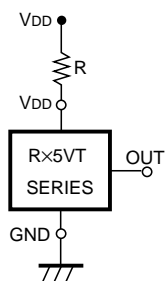

FIG. 9
1. When R5VT×C (CMOS Output) is used in FIG. 9, this IC may oscillate by the through-type current at the detection when impedance is connected between Power Source VDD and R5VT VDD Pin. When R5VT×A (Nch Open Drain Output) is used in FIG. 9, and R becomes excessively large, Detector Threshold may be varied because of the voltage drop of the supply current in the IC itself.